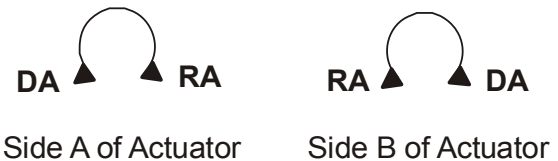

Figure 10: Mode Selection
Actuators have an external mode selection switch to reverse control logic. The switch is accessible from both A and B sides of the actuator as illustrated in Figure 10. Actuators are delivered in Direct Acting (DA) mode and can be switched by the user to Reverse Acting (RA) mode.